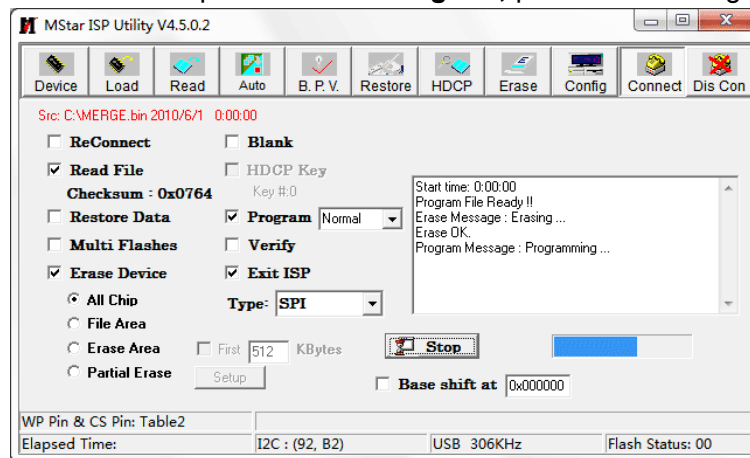

Fig. 6 Option switches
- f) Burning process has two steps: **Erase** and **Program**; please refer to Fig. 6;